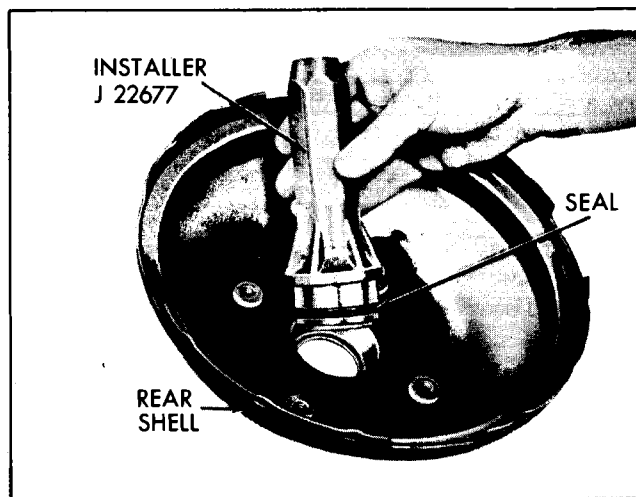

Fig. 5B-9 Installing Rear Vacuum Seal
POWER PISTON - ASSEMBLE (Fig. 5B-7)
1. If rear vacuum seal was removed, place rear housing on bench with studs down and press new seal carefully into cavity in housing, plastic side first, using tool J 22677. (Fig. 5B-9). Use hands to press seal about 7/16" below inner housing surface or until metal shoulder bottoms. DO NOT CRACK PLASTIC.
hub. Push on valve enough to insert the valve plunger stop key (Fig. 5B-8).